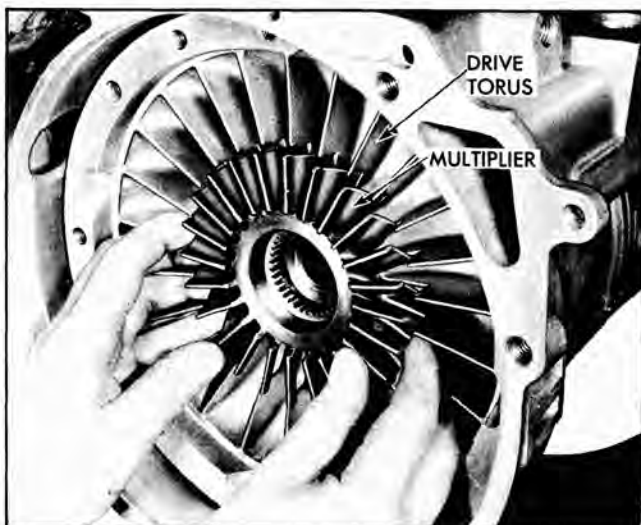

Fig. 56 Removing Multiplier and Drive Torus
7. From the front of the transmission, remove the drive torus member and torque multiplier as a unit (Fig. 56).